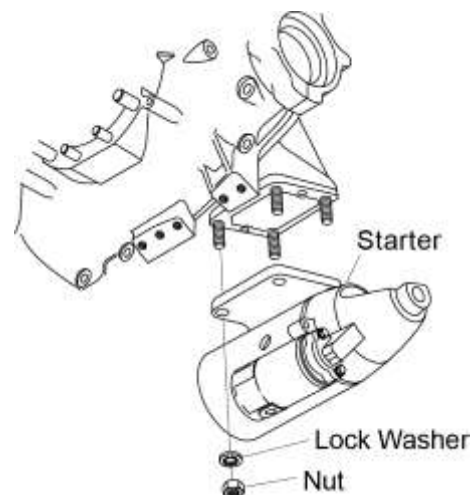

Figure 7
- (1) Disconnect all power to the engine.
- (2) Remove electrical leads from the starter. Refer to the airframe manufacturer's manual.
- (3) Hold the starter and remove the four nuts and lock washers (Figure 7) from the studs on the mounting face for the starter. Discard the lock washers.
- (4) Remove the starter from the studs on the engine.
- (1) Install the starter onto studs and seat on mounting face of the engine (Figure 7).
- (2) Install the starter with a new lock washer and a nut on each of the four studs.
- (3) Tighten and torque the nuts per the Standard Torque Tables in the latest revision of the *Service Table of Limits - SSP-1776*.
- (4) Install electrical leads to the starter as per the airframe manufacturer's manual.
- (5) Restore power to the engine.
- (6) Complete the operational test in Chapter 72-00, to make sure the starter operates correctly.